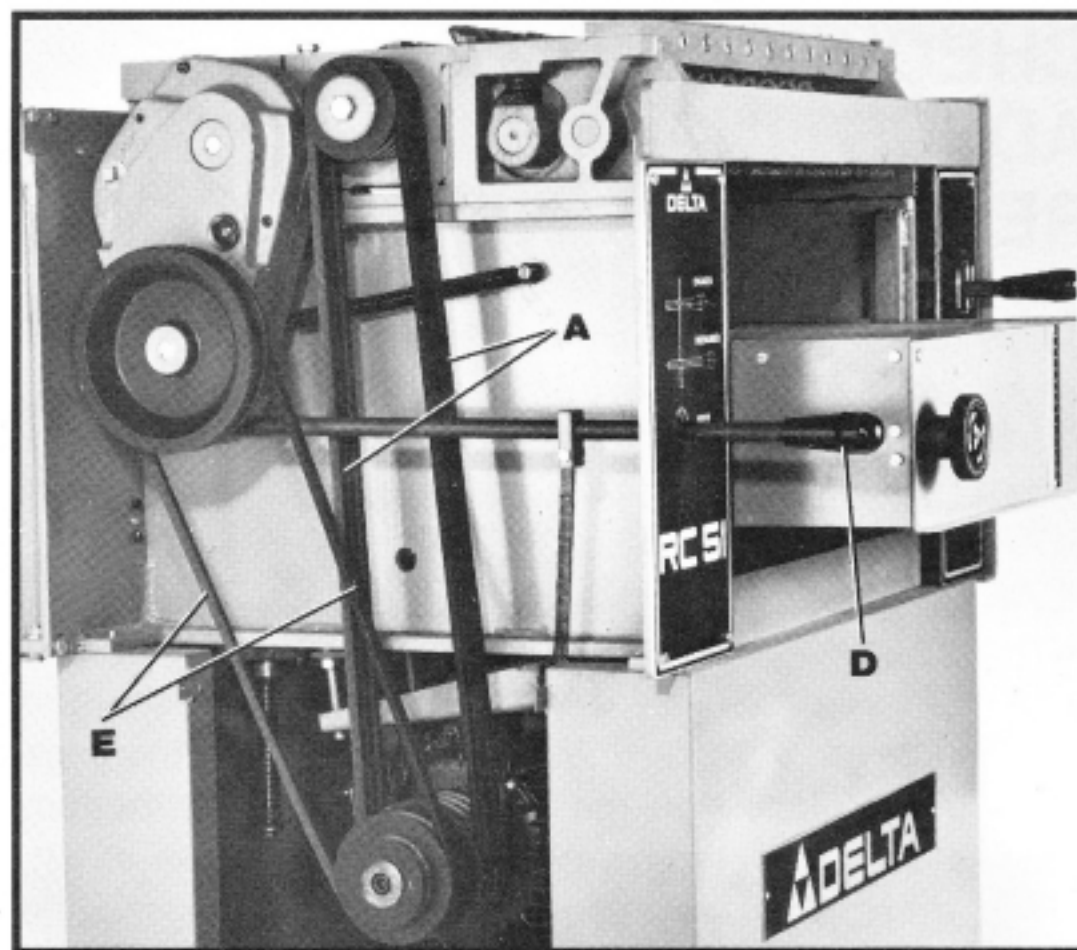
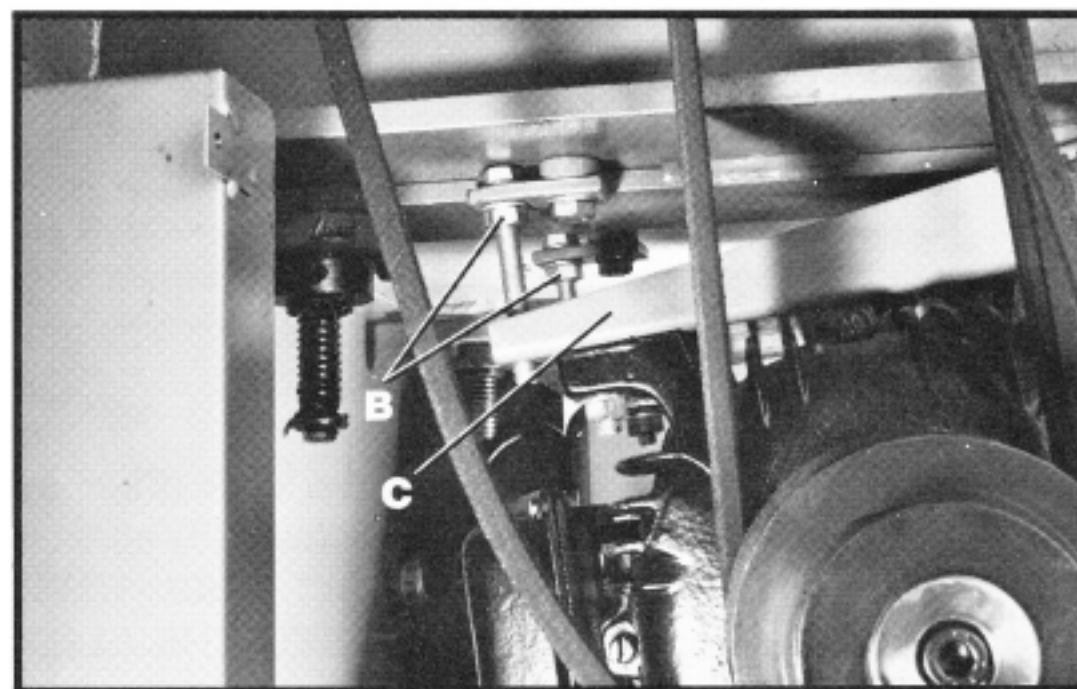

Fig. 18
Fig. 19
Proper drive belt tension is obtained when there is 1/4" deflection, using light finger pressure on drive belts (A) Fig. 18, midway between pulleys. If an adjustment is necessary proceed as follows:
2. Disengage feed roll lever (D).
3. Loosen two hex nuts (B) Fig. 19, and move motor plate (C) up or down as necessary to adjust tension.
4. Tighten two hex nuts (B) Fig. 19, after adjustment is made.
Proper tension on the feed roll belt is obtained when there is approximately 1" deflection, using light finger pressure on feed roll belt (E) Fig. 18, midway between pulleys with the feed roll lever (D) engaged ("IN" POSITION).